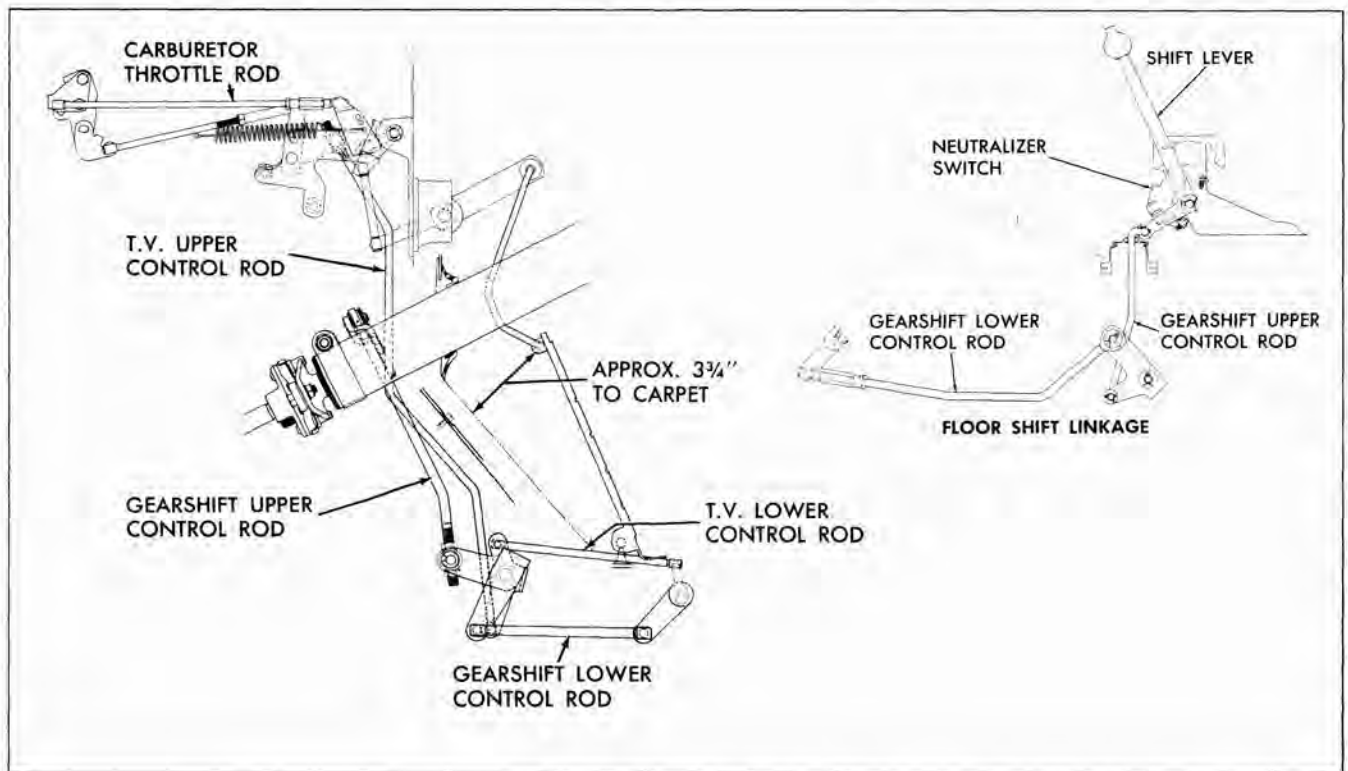

Fig. 42 Accelerator and Gearshift Linkage
8. Adjust carburetor throttle rod to obtain 4.55" clearance from underside of attaching boss on pedal to body toe pan as shown in Fig. 42. (App. $3\frac{3}{4}$ " to carpet). Tighten lock nut on carburetor throttle rod securely.
1. Put upper shift control lever and transmission lever in park P position and, with the gearshift upper control rod trunnion nuts (Fig. 42) backed clear of the trunnion, pull the control rod down toward the transmission as far as possible. While holding rod in this position, run the trunnion upper nut down to just contact the trunnion. Run lower nut up to contact trunnion and lock nuts securely.